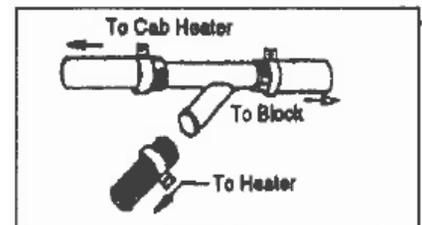

Figure 9 – Y-Fitting
- Outlet (top connection) - Near the engine block, cut heater hose from passenger compartment heater to engine block inlet, slip on hose clamps and insert Y-fitting as per Figure 9. Connect the heater outlet lube to the remaining opening on the Y-fitting then tighten hose clamp.